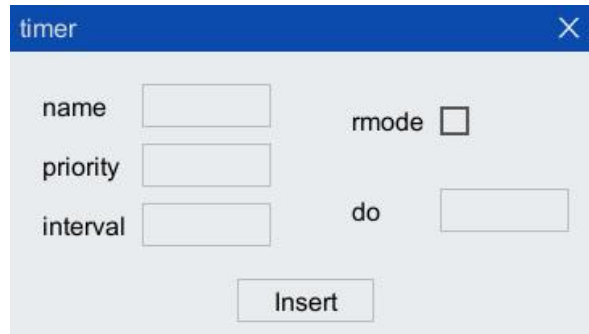

Figure 5-42 "Timer" instruction configuration interface
Step1. Click "Insert Cmd> Interrupt Trigger> timer" option in the toolbar of the program editor to pop up "timer" instruction interface, as shown in Figure 5-42.